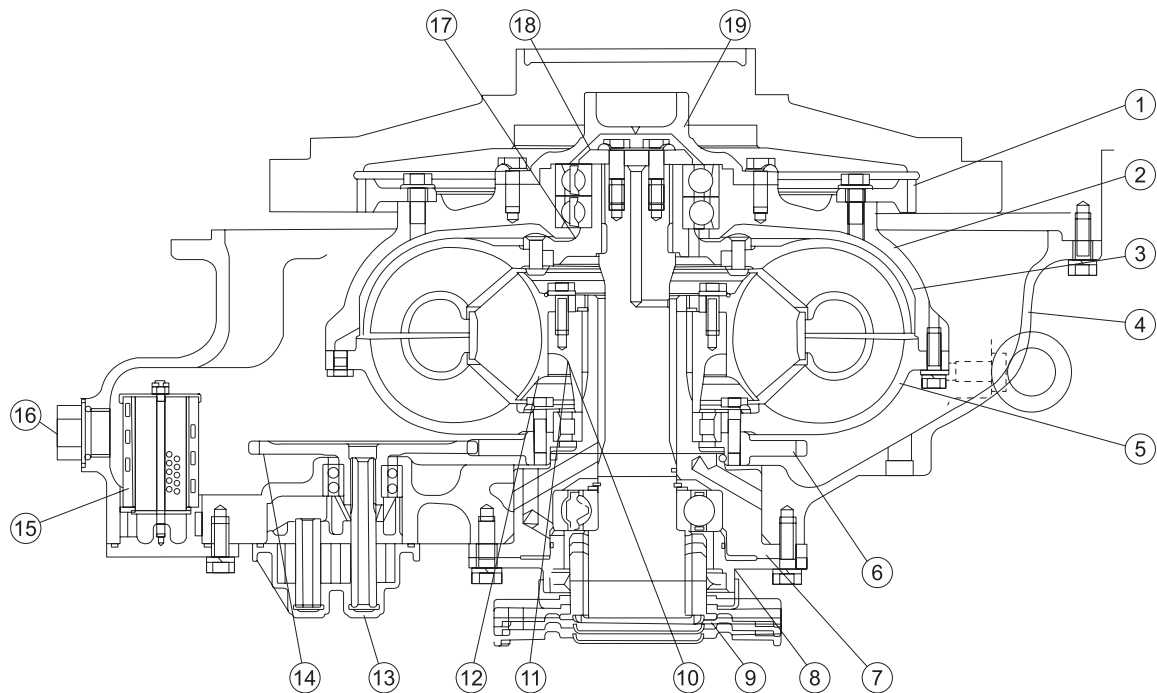

Figure 3-12
3.2.7 HYDRAULIC TORQUE CONVERTER (FIGURE 3-12)